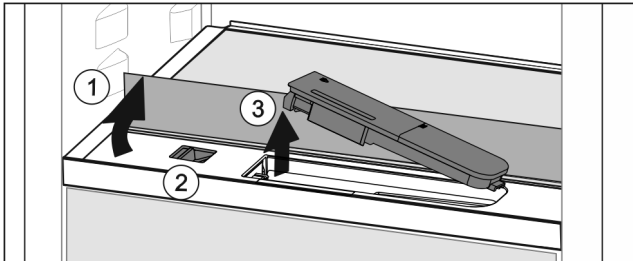

Fig. 164
- ▶ Lift the glass panel and fold towards the rear until it clicks into place Fig. 164 (1).
- ▶ Slide the slider Fig. 164 (2) to the left.
- ▶ Remove the water tank Fig. 164 (3).